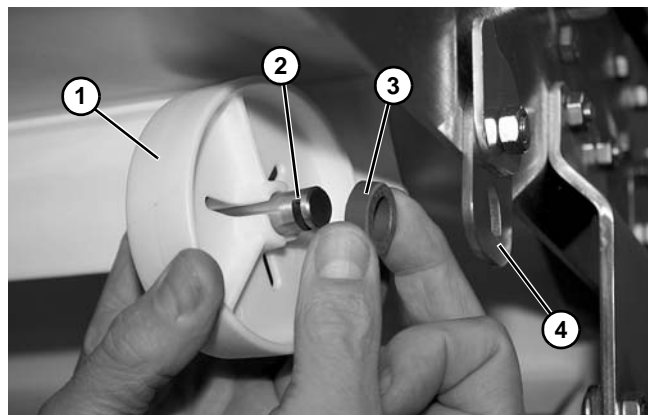

Figure 91
2. Remove puck (**Figure 91, item 1**), stub shaft (**Figure 91, item 2**), and spacer (**Figure 91, item 3**) from return bracket (**Figure 91, item 4**).